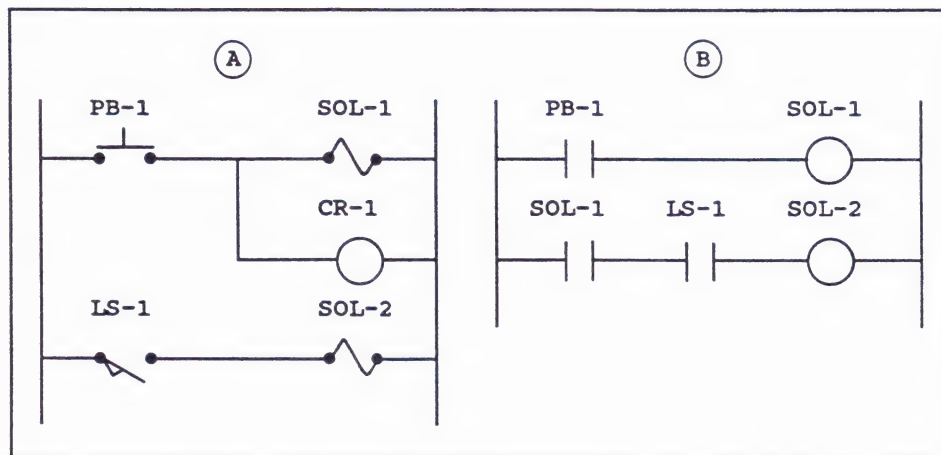

Figure 2.15 Combined Circuits
Note that in part A of Figure 2.15, CR-1 is used as a permissive relay in the second rung. Because we cannot hard-wire SOL-1 into the second rung, we must insert a control relay and use its Normally Open (NO) or Normally Closed (NC) contacts.